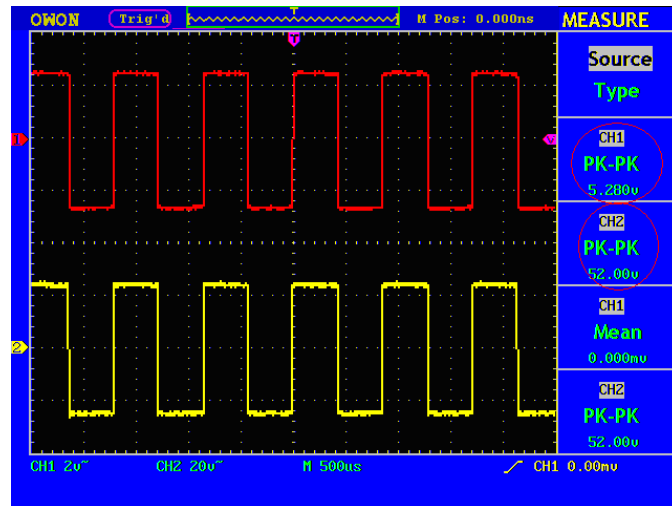

Fig.6-2 Wave Form of Gain Measurement
8. Get Pk-Pk readings of Channel 1 and Channel 2. (See Fig. 6-2).